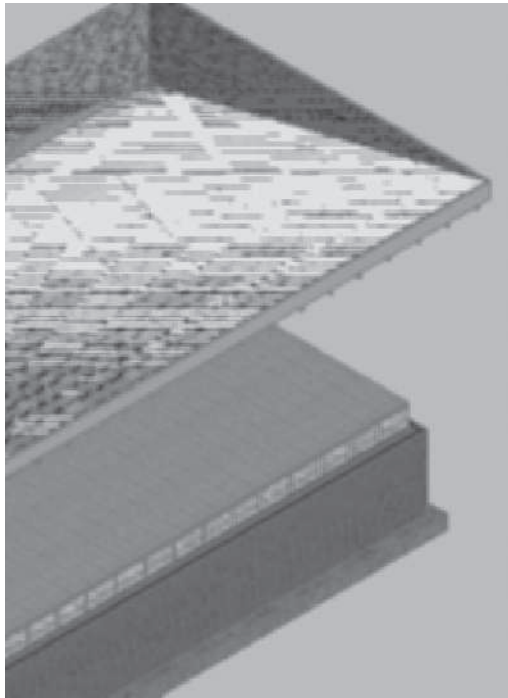

FIGURE 13.11 Structural members placed objects
13. Right-click and choose **Isolate Objects > End Object Isolation**. Select **SW Isometric** from the **View** Cube. Select the View tab, choose **Realistic** from the **Visual Styles** flyout menu of the View tab to view the roof slab as shown in Figure 13.11.